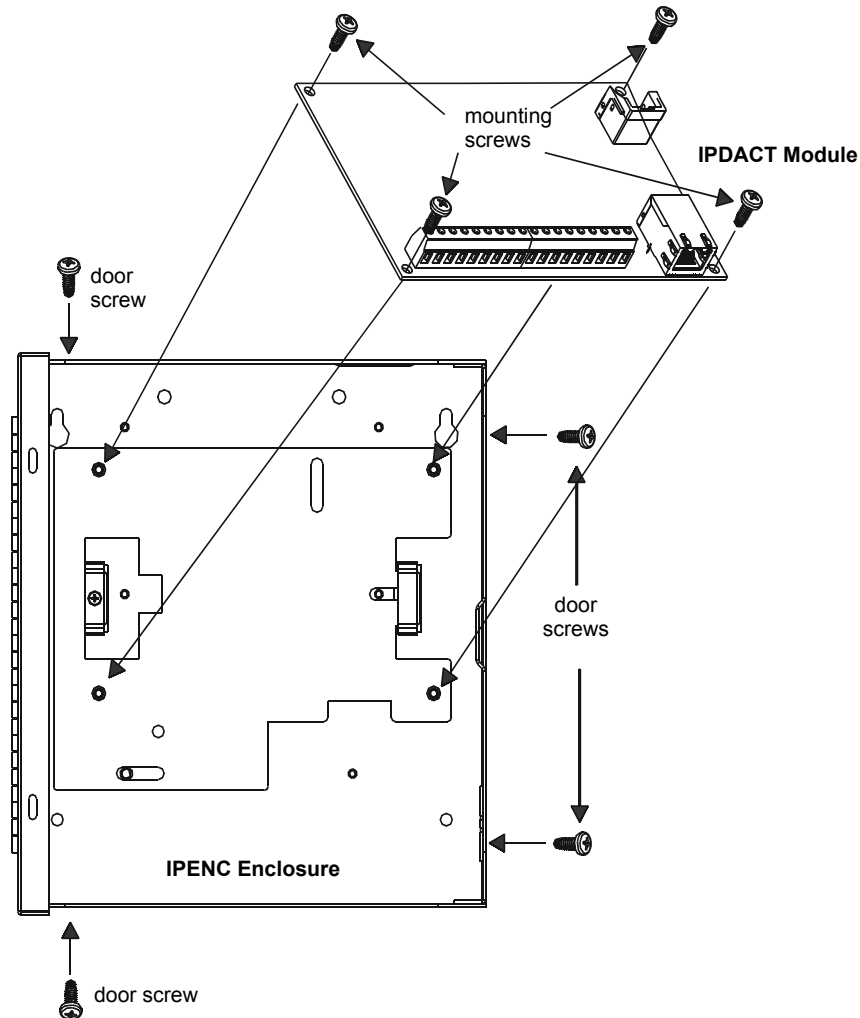

Figure 9 IPENC Installation
1. Secure IPDACT Series Module to the bracket using the four supplied screws as illustrated in Figure 9.